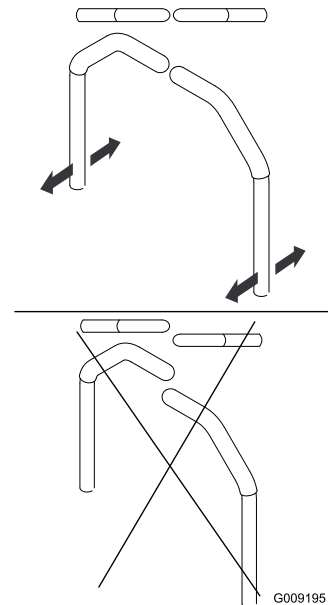

Figure 86
4. Align the levers in the front-to-rear position by bringing the levers together to the NEUTRAL position, and slide them until they are aligned, then tighten the bolts (Figure 86).